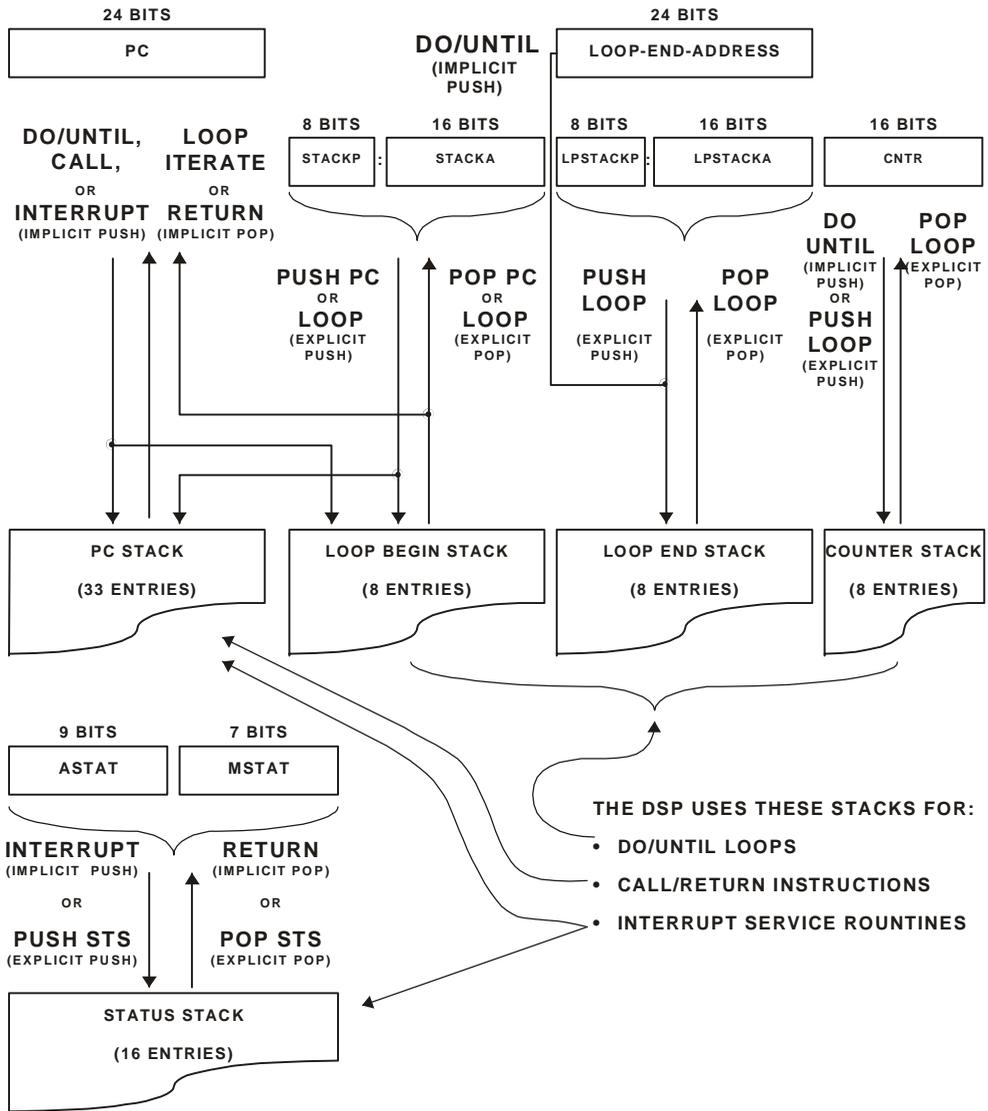

Figure 3-4. Program Sequencer Stacks
The sequencer includes five stacks: PC stack, loop-begin stack, loop-end stack, counter stack, and status stack. These stacks preserve information about program flow during execution branches. Figure 3-4 on page 3-37 shows how these stacks relate to each other and to the registers that load (`PUSH`) or are loaded from (`POP`) these stacks. Besides showing the operations that occur during explicit push and pop instructions, Figure 3-4 on page 3-37 also indicates which stacks the DSP automatically pushes and pops when processing different types of branches: loops (`DO/UNTIL`), calls (`CALL/return`), and interrupts.
As shown in Figure 3-4 on page 3-37, the source for the pushed values and destination for the pop value differs depending on whether the stack operations is implicit or explicit.
In explicit stack operations, a program's access to the stacks goes through a set of registers: STACKP, STACKA, LPSTACKP, LPSTACKA, CNTR, ASTAT, and MSTAT. A POP instruction retrieves the value or address from the corresponding stack (PC, Loop, or Sts) and places that value in the corresponding register (as shown in Figure 3-4 on page 3-37). A PUSH instruction takes the value or address from the register and puts it on the corresponding stack. Programs should use explicit stack operations for stack maintenance, such as managing the stacks when exiting a DO/UNTIL loop with a conditional JUMP.
The sequencer supports conditional execution with conditional logic that appears in Figure 3-4 on page 3-37. This logic evaluates conditions for conditional (IF) instructions and loop (DO/UNTIL) terminations. The conditions are based on information from the arithmetic status (ASTAT) register, the condition code (CCODE) register, the flag inputs, and the loop counter. For more information on arithmetic status, see “Using Computational Status” on page 2-18.